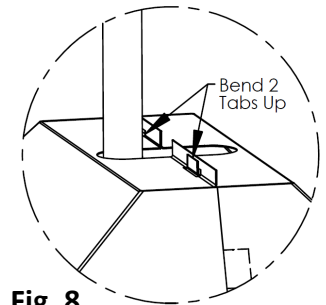

Fig. 8
3. Insert 2 tabs on top of Bird Shroud through the slot as shown in Fig. 8 and bend up to secure.